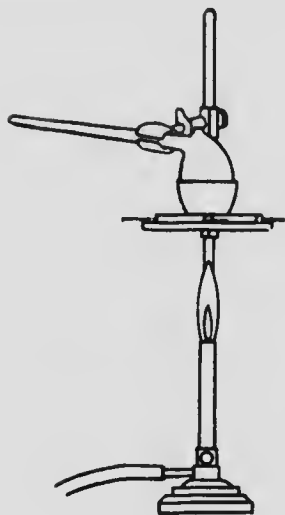

FIG. 48.
**Sketches.**—Figs. 48 and 49.
**Experiments.**—1. Mix 10 grammes of china or fire clay with a **little** water to a **thick** paste in your evaporating dish. Place a few hardwood chips in the bowl of a clay pipe and insert the bowl into a porcelain crucible. Lute it in by means of the china clay (Fig. 48). The wood must be loosely put into the pipe so that it will drop into the bottom of the crucible when inverted.